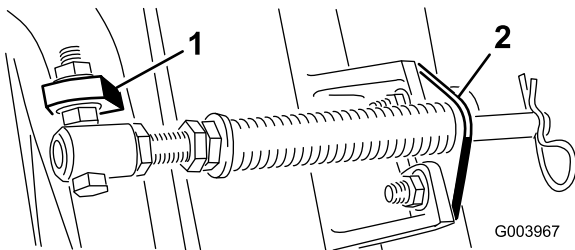
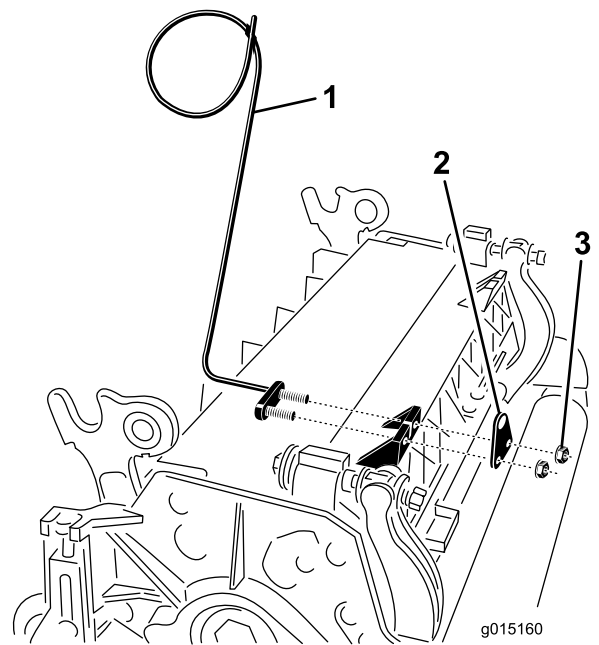

Figure 10
Figure 12
- C. Mount the spring tube bolt to the opposite tab on the carrier frame and secure with the flange nut. The bolt head is to be positioned to the outer side of the tab as shown in Figure 10.
- D. Mount the rod bracket to the cutting unit tabs with the carriage bolts and nuts (Figure 10). Also, on the #4 (left front) cutting unit, mount the left hand hose guide to the front of the cutting unit tabs when reinstalling the rod bracket (Figure 12).